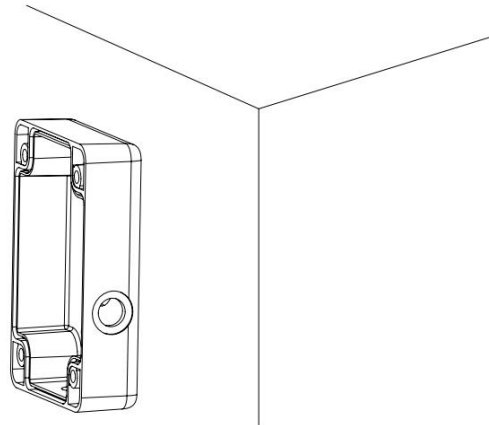

Figure 4-2
1). Please draw four holes position in the wall according to the holes of the bottom of junction box. Then you can dig four holes and insert the expansion bolts (not provided). Use four hex bolts and flat washer to fix the box in the expansion bolts. See Figure 4-2.